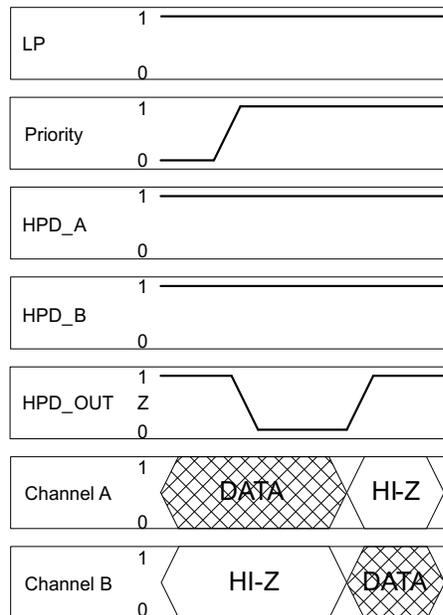

Figure 27.
- Case two: In this case both HPD inputs are HIGH. Changing the state of the priority pin when both HPD inputs are high forces the device to switch which channel is selected. When a state change is detected on the priority pin, the device waits for a short period of time  $t_{T1(HPD)}$  before responding (see Figure 27). The purpose for this pause is to allow for the priority signal to settle and also to allow the device to ignore potential glitches on the priority pin. Once  $t_{T1(HPD)}$  has expired, the HPD output is forced LOW for  $t_{T2(HPD)}$  and the device follows the chain of events outlined in scenario 3 case 2.